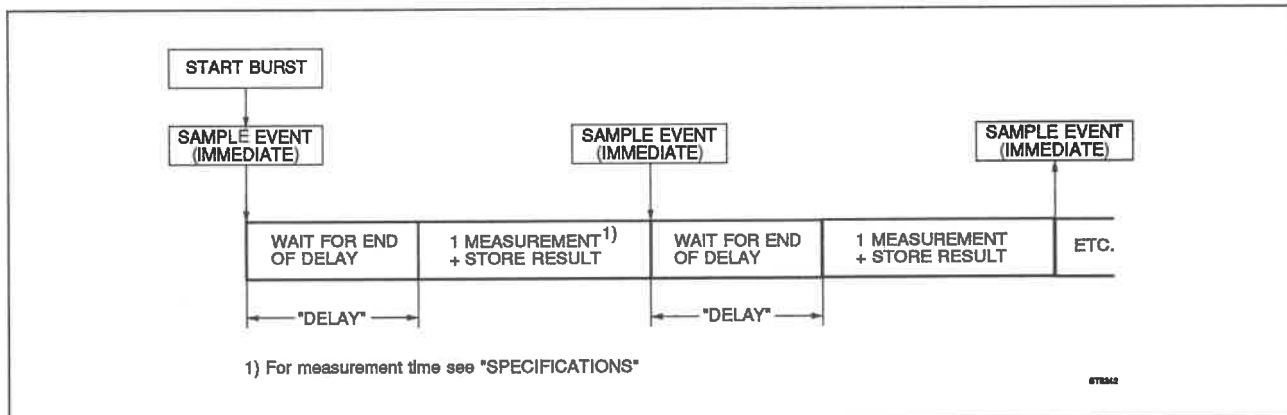

Fig. 4.46 Sample timing at sample input IMMEDIATE.
- 4. IMMEDIATE a new sample is taken immediately after termination of the preceding sample, when the delay is expired (see Fig. 4.46).